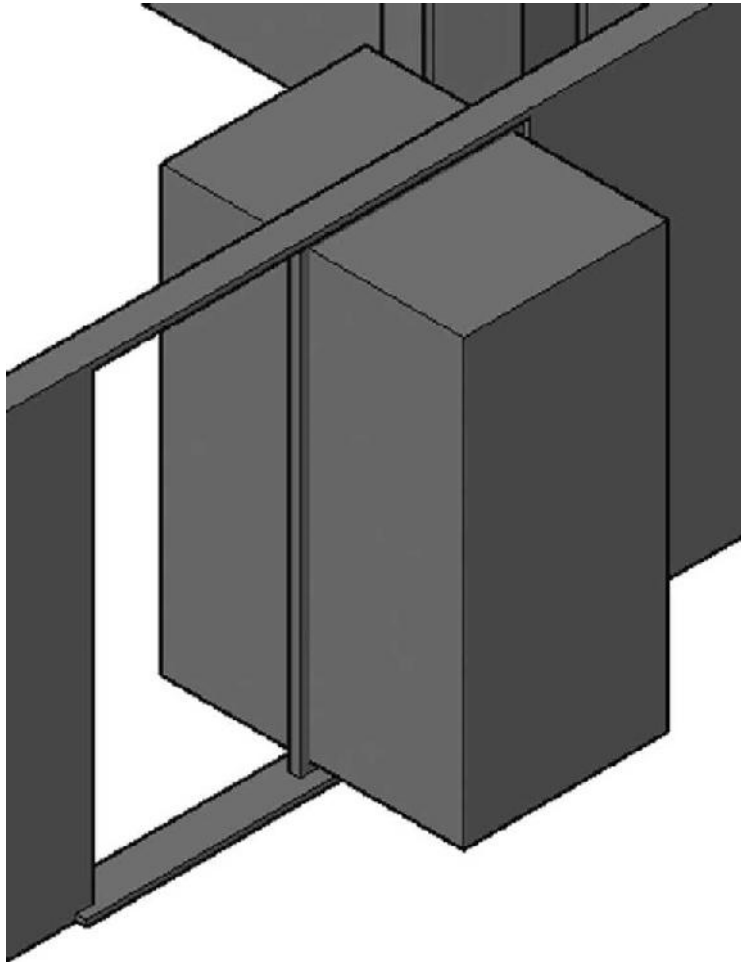

FIGURE 16.49: The first sliding-door frame and block-out
7. Create a block-out that is 4' (102 mm) smaller than the width and height of the frame you just drew but significantly deeper. Then center it on the sliding-door frame, as shown in Figure 16.49.
NOTE The Conceptual visual style is used in Figure 16.49 for clarity. Often, the opaque nature of the Conceptual style makes objects easier to interpret; at other times, the transparent nature of the X-Ray visual style is preferred. Your choice will likely change based on the task at hand.